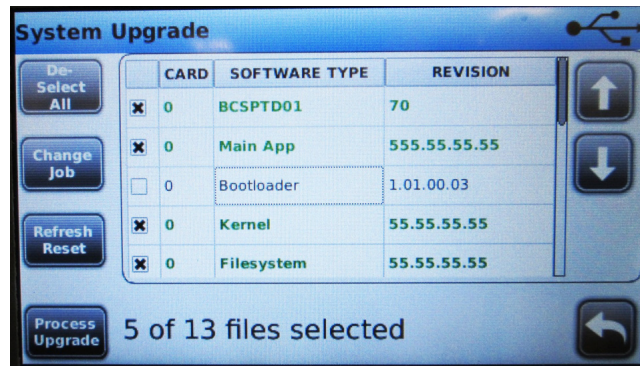

Figure 10-2. System Upgrade Window
- USB File Transfer** 8. Disconnect the USB storage device from the PC and insert it into the USB port located on the CPU board that is mounted on the inner door panel of the 4007ES. Files that need to be updated are flagged for an upgrade on the panel display (Figure 10-2).